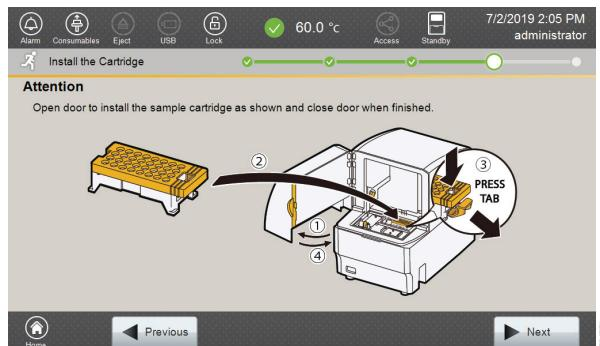

Figure 93. 'Install the Cartridge' screen.
2. Open the instrument door, and then place the sample cartridge on the autosampler following the instructions displayed on the 'Install the Cartridge' screen (Figure 93). Press down on the yellow tab on the autosampler deck that locks the sample cartridge in place before placing sample cartridge into position. Release the tab to lock the sample cartridge in place on the autosampler deck.